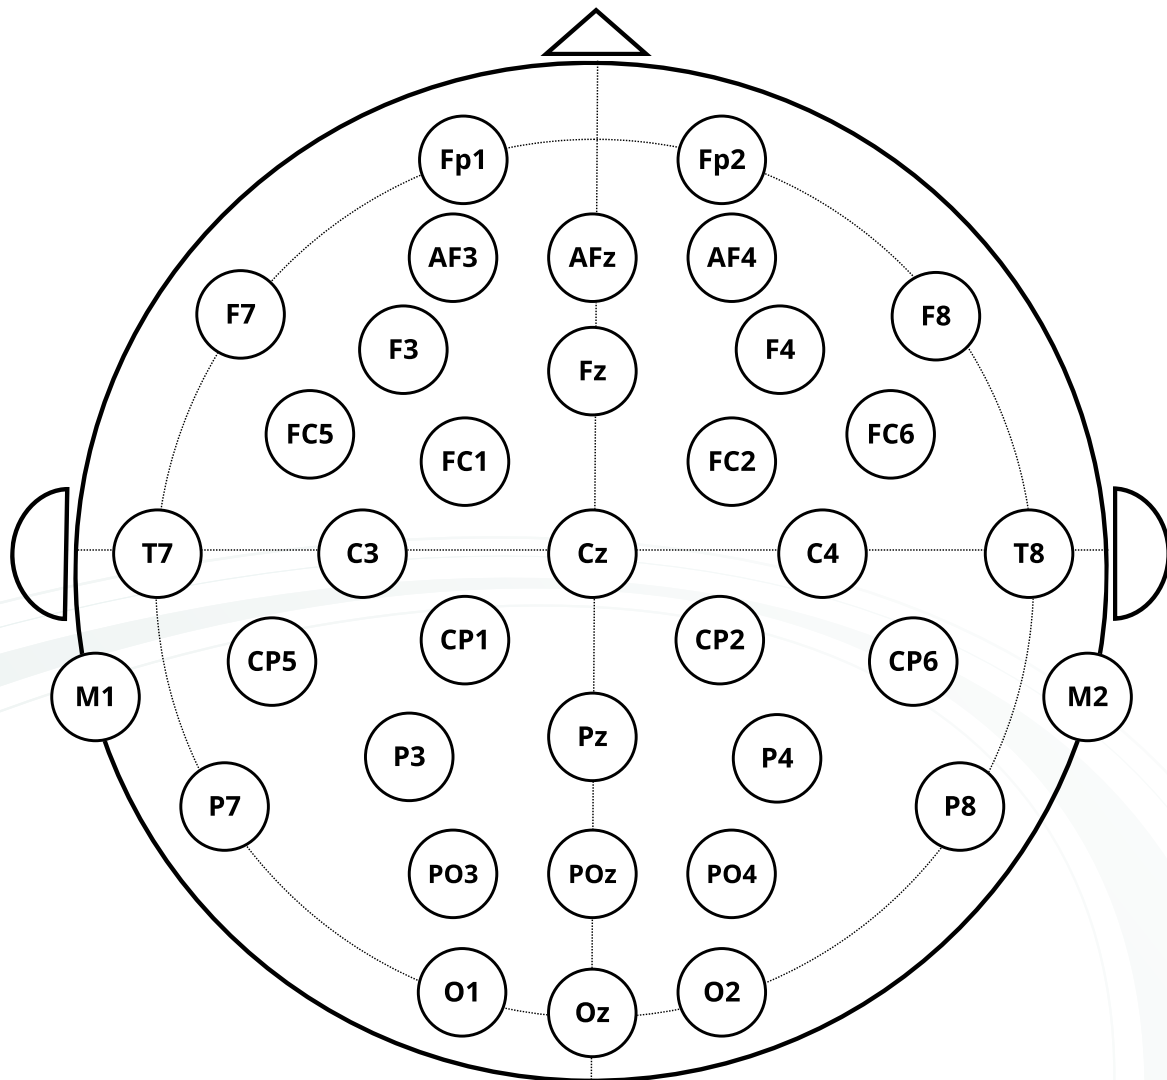

Figure 2. Electrode Location
- The cap provides **36 electrode positions**, each **clearly labeled** according to the 10–20 system (Figure 2).
- Supports up to **32 EEG acquisition channels, 1 reference electrode (R), 1 bias electrode (B), and 2 mastoid positions (M1/M2)**.